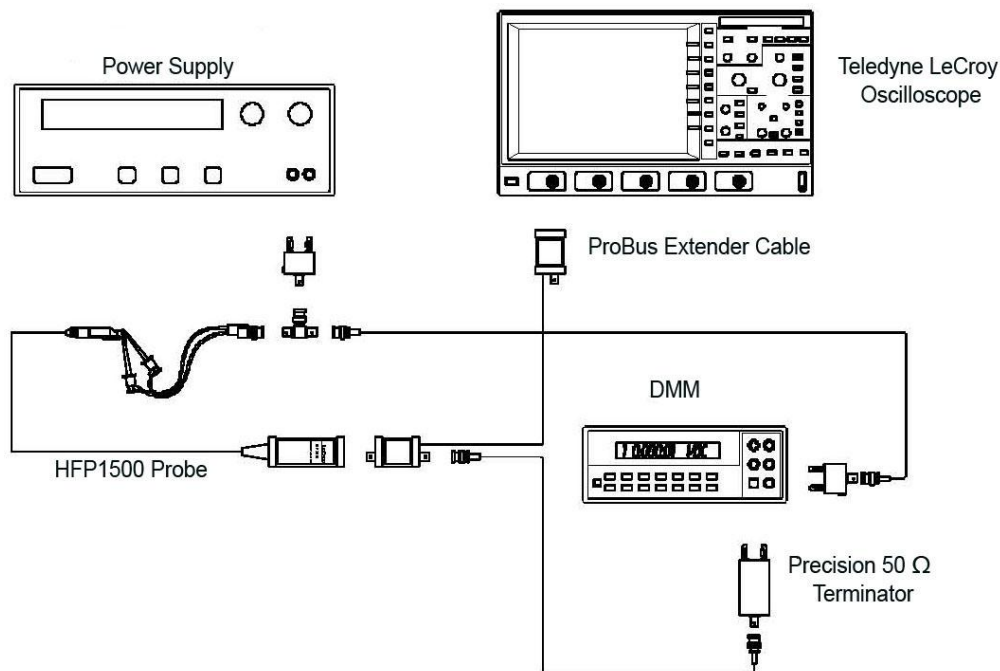

Figure 10 Offset Range Adjustment Setup
5. Attach a BNC cable to the unused female port of the BNC tee and a dual banana plug adapter to the other end of the BNC cable and plug this into the DMM. Make sure the side of the banana plug corresponding to the BNC shield (marked 'GROUND') is connected to the **LO** or **COMMON** input of the DMM. Refer to **Figure 10 Offset Range Adjustment Setup** for setup information.